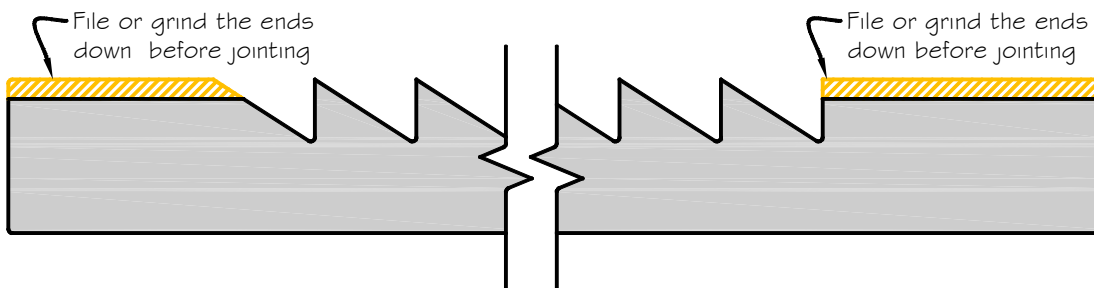

Figure 1. File ends down before jointing.
1. Prepare for sharpening* - Before jointing the saw, file the untoothed portions of the blade so that they are below the level of the toothline (Figure 1). If this is not done, the teeth towards the ends will be jointed less than those towards the center of the blade, resulting in a concave toothline.